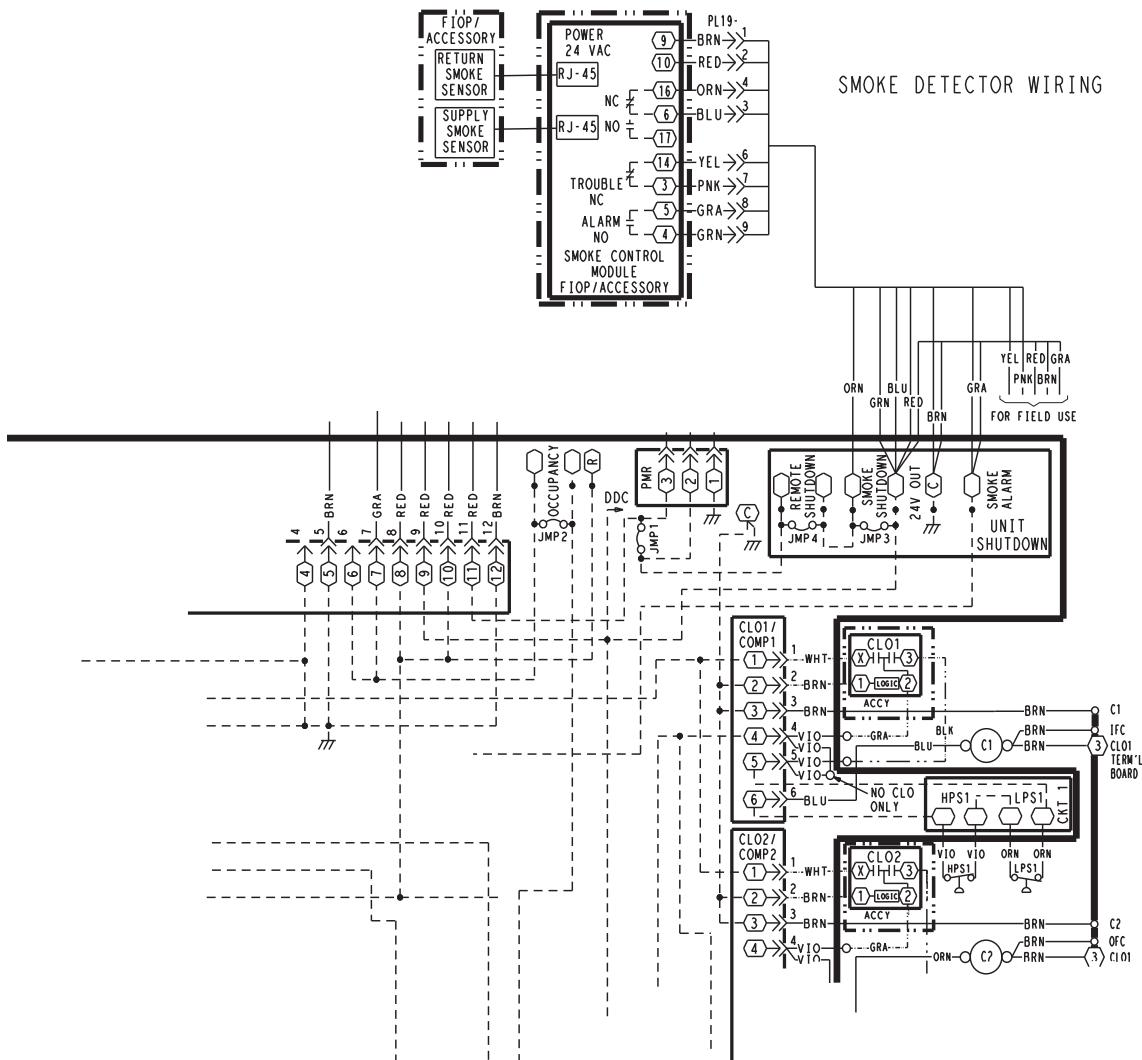

Fig. 3 — Smoke Detector Wiring (Not Used for 48/50LC Models)
3. With harness from kit, plug the harness to controller as shown in wiring label (see Fig. 3).